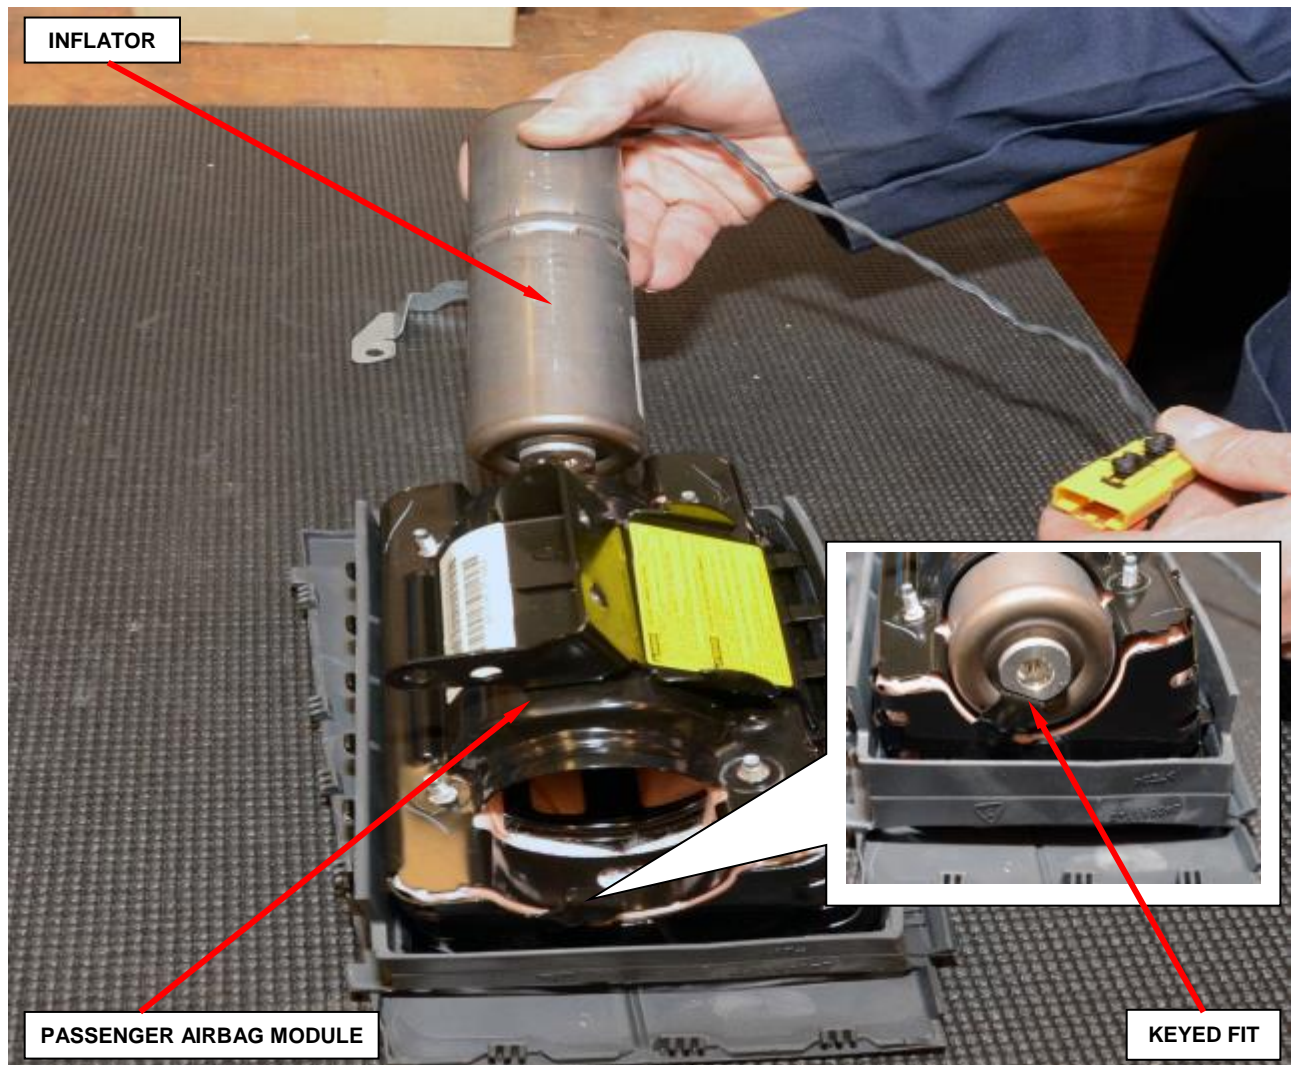

Figure 73 – Passenger Inflator Installation
g. Slide the **new** inflator into the passenger airbag module (Figure 73).
NOTE: The inflator is keyed to fit into the housing (Figure 73).